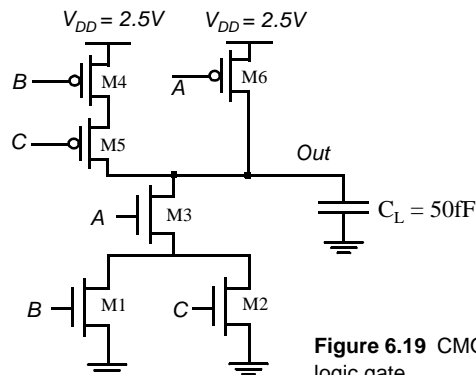

Figure 6.19 CMOS logic gate.
29. Consider the circuit shown Figure 6.19.